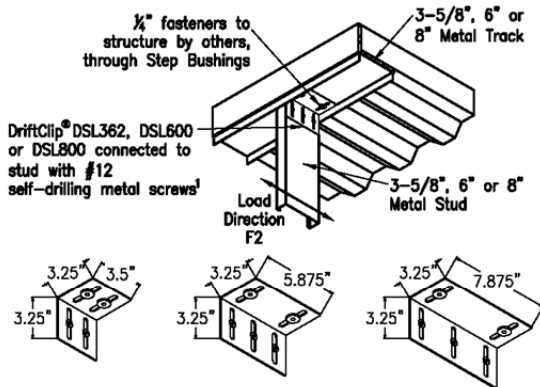

Figure 3 – DriftClip[®] DSL362/400, DSL600 and DSL800
3.1.4 DriftClip[®] DSL: DriftClip[®] DSL362/400, 600 and 800 are L-shaped angles that connect $3\frac{5}{8}$ - or 4-, 6- and 8-inch-deep (92 or 102, 152, and 203 mm) exterior curtain wall steel studs, respectively, at head of wall to the building's structural frame while allowing for a maximum of 2 inches (51 mm) of vertical, and horizontal movement between exterior wall elements and the primary structure. The minimum base-metal thickness of the clips is 0.0966 inch (2.5 mm). The two legs of the DriftClip[®] DSL362/400, 600 and 800 connectors are equal in length, and each has two or three slots perpendicular to the heel of the angle, each $\frac{3}{8}$ inch (9.5 mm) wide by $2\frac{3}{8}$ inches (60 mm) long. The leg which is fastened to the curtain wall stud has bushings designed for No. 12 self-drilling/self-tapping steel screws installed in the center of each slot. The other leg, which is fastened to the structure, has bushings designed for $\frac{1}{4}$ -inch-diameter (6.4 mm) fasteners installed in the centers of the slots. Refer to Figure 3 for overall dimensions of each DriftClip[®] DSL connector and a typical installation detail.